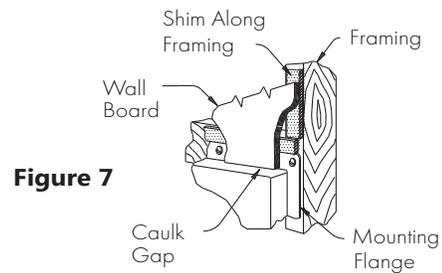

Figure 7
- Finish wall board as detailed in Figure 7.